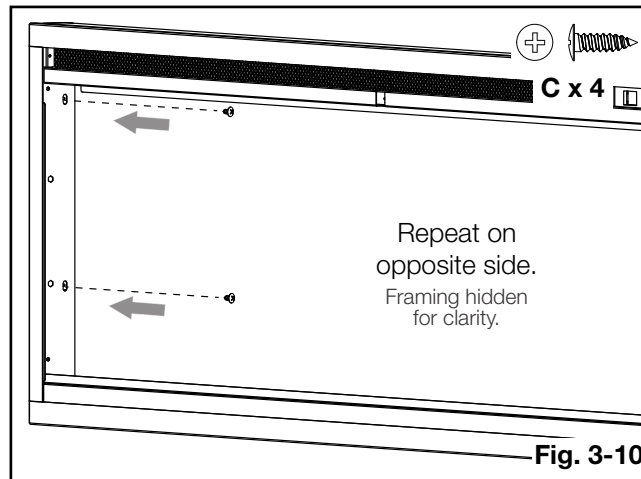

Fig. 3-10
- E. Secure two screws (supplied) through the two slot holes on each side of the appliance with the framing brackets (**Fig. 3-10**).